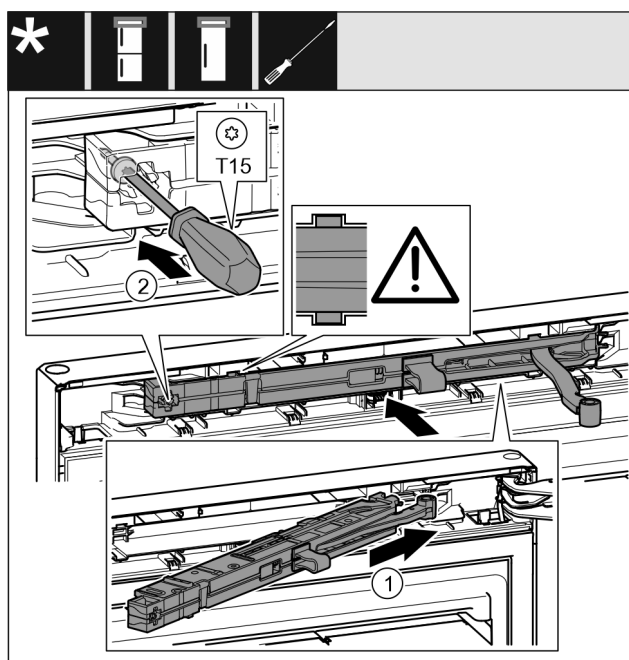

Fig. 20
- ▶ Slide the soft stop mechanism on the bearing bracket side at an angle into the recess as far as it will go. Fig. 20 (1)
- ▶ Tighten the screw using a T15 screwdriver. Fig. 20 (2)